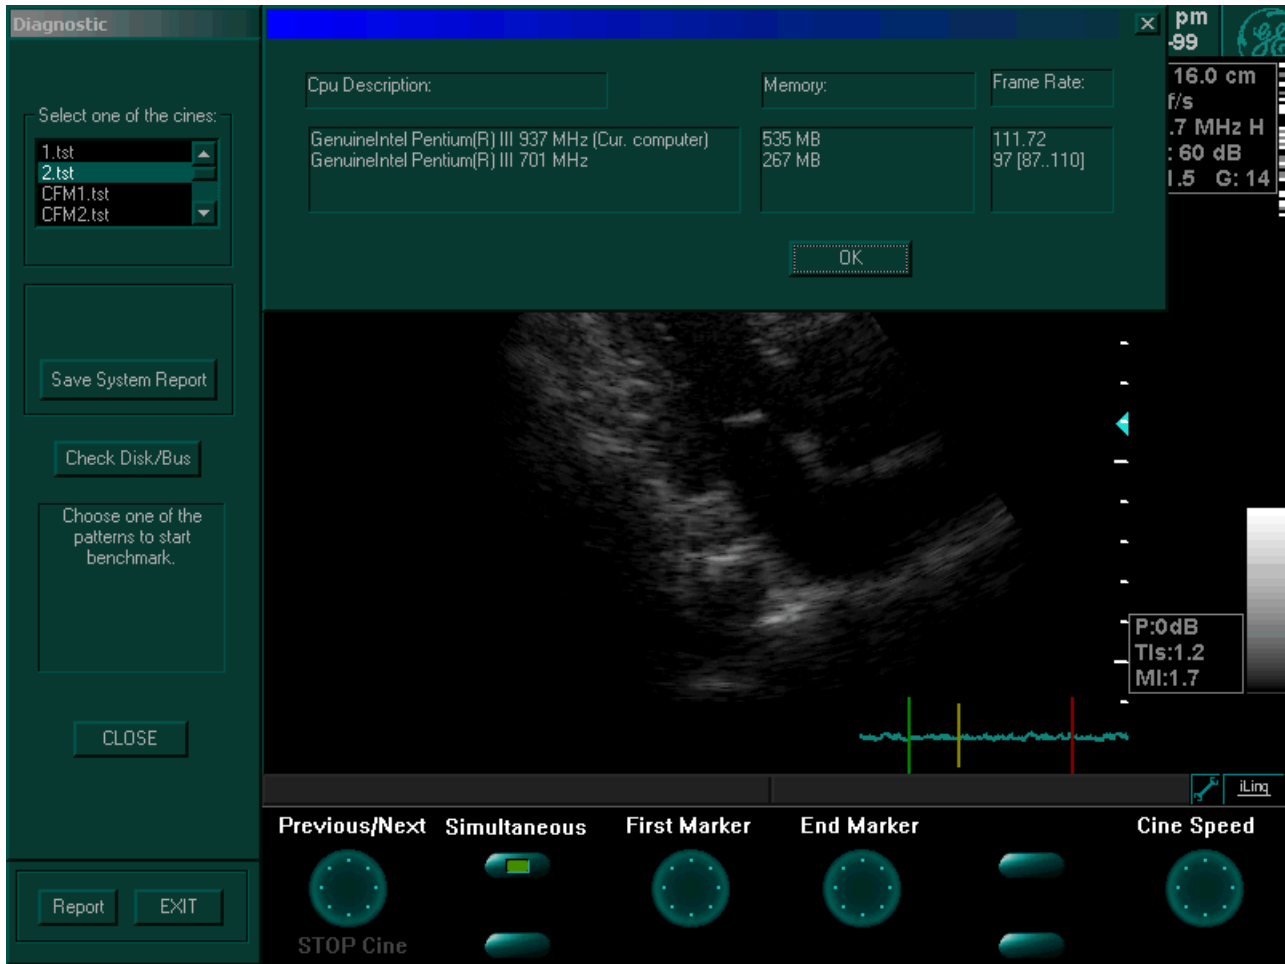

Figure 7-54 Benchmark Testing Results
- 3) Trackball to the required option from the **Select one of the cines** drop-down list and press **Select**. The following results are displayed, as shown in Figure 7-54 on page 7-80.